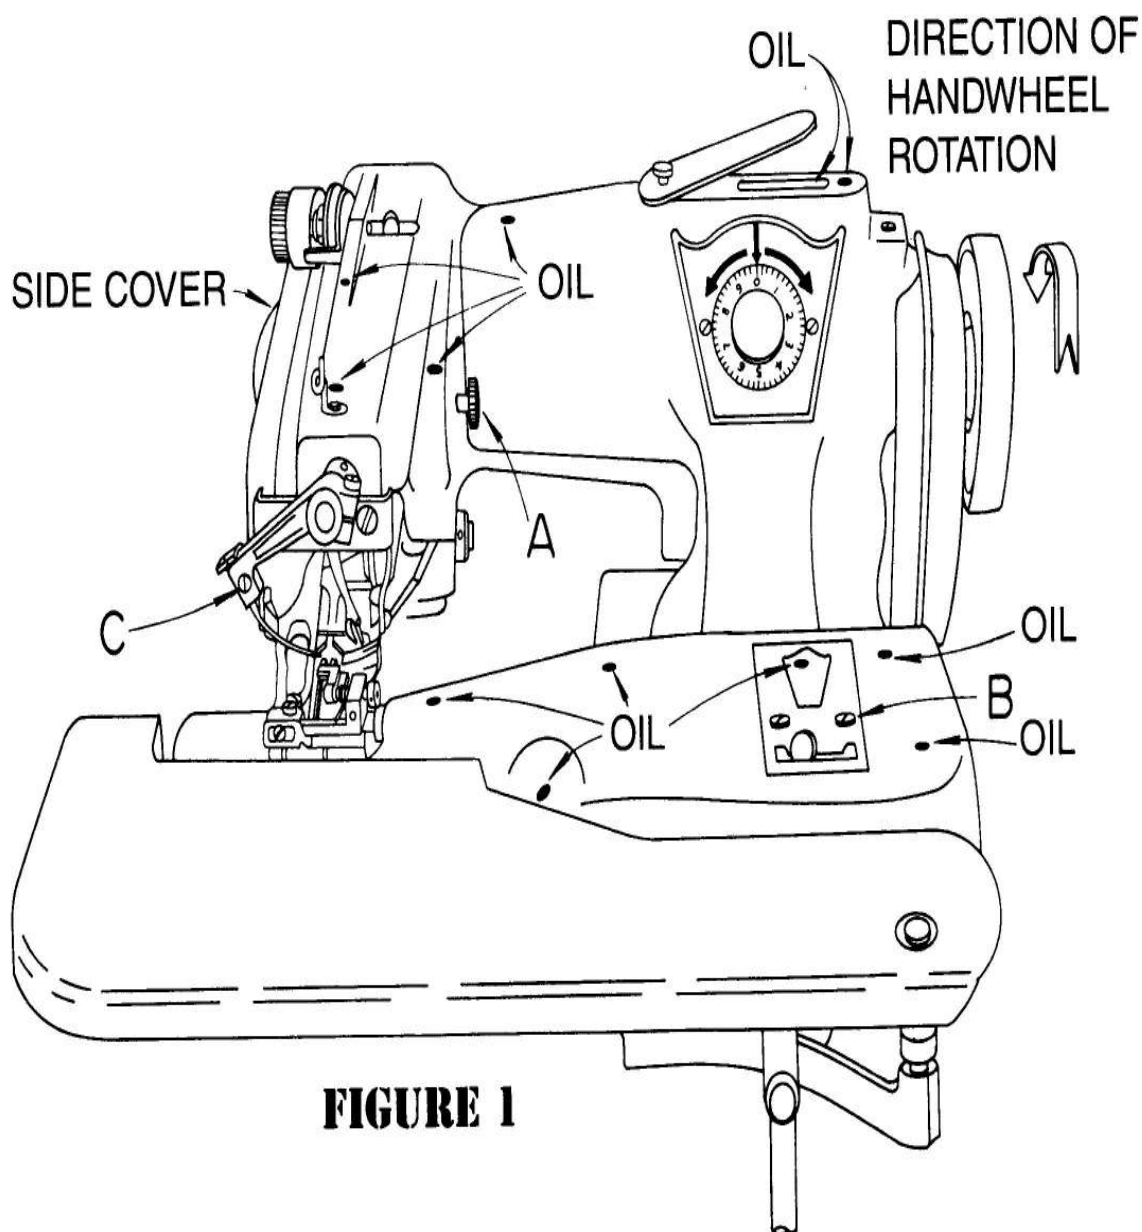
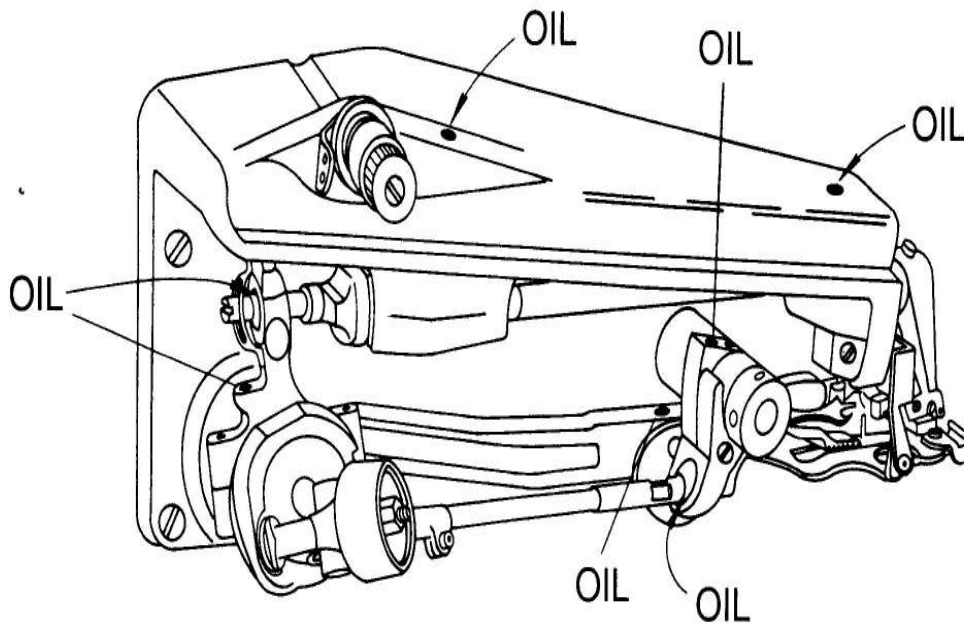

FIGURE 1
FIGURE 2
2. The machine should be mounted so as to insure that the direction of rotation of the handwheel is away from the operator. In other words, the handwheel rotates in a clock-wise direction when looking at the face of the wheel pulley, as shown by the arrow in **Figure 1**.
2. Place a few drops of oil at all the points shown on the oiling chart in **Figure 1**. Remove the side cover shown on **Figure 1** by loosening the cover attaching bolt "A". Then place a few drops of oil at all the points shown on the oiling chart in **Figure 2**.
3. In production use, the machine should be oiled on a daily basis in accordance with the instructions in item 2 above.
b. The lifter rod itself may be moved from left to right as follows: Loosen the screw attaching the small window plate on top of the feed frame (*see Figure 1, item "B"*) and swing this plate out of the way. By inserting a screw driver into the window, the two screws which lock the lifter rod to the lifter rod bracket may be loosened. Move the rod to the desired location and tighten the two lifter rod bracket screws. Replace the window plate in its proper location and tighten the window plate screws.
2. Remove the side cover by loosening the attaching screw (*item "A" in Figure 1*) and observe the machine from the rear.
b. Loosen the needle clamp screw (*item "C" in Figure 1*), slide the clamp rearward sufficiently to release the old needle, and remove and discard it. Insert the new needle and push it up into the groove of the needle lever as far as it will go. Make sure that the flat on the shank of the needle faces rearward and the needle is properly seated in the groove. Tighten the needle clamp screw and turn the handwheel slowly making sure that the needle passes lightly over the needle guide on the presser foot and clears the looper. Readjust the needle penetration as described in a previous section, prior to resuming operation.
b. Loosen the needle clamp screw (*item "C" in Figure 1*), slide the clamp rearward sufficiently to release the old needle, and remove and discard it. Insert the new needle and push it up into the groove of the needle lever as far as it will go. Make sure that the flat on the shank of the needle faces rearward and the needle is properly seated in the groove. Tighten the needle clamp screw and turn the handwheel slowly making sure that the needle passes lightly over the needle guide on the presser foot and clears the looper. Re-adjust the needle penetration as described in a previous section, prior to resuming operation.